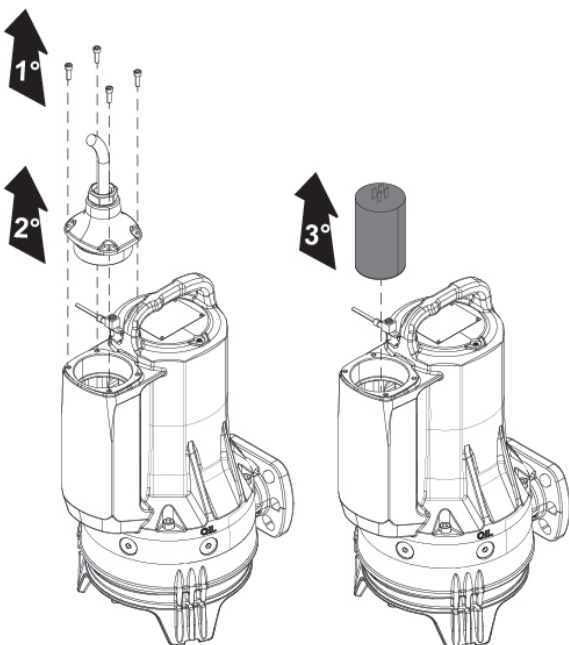

Fig.9
- **Capacitor change (Fig. 9)**